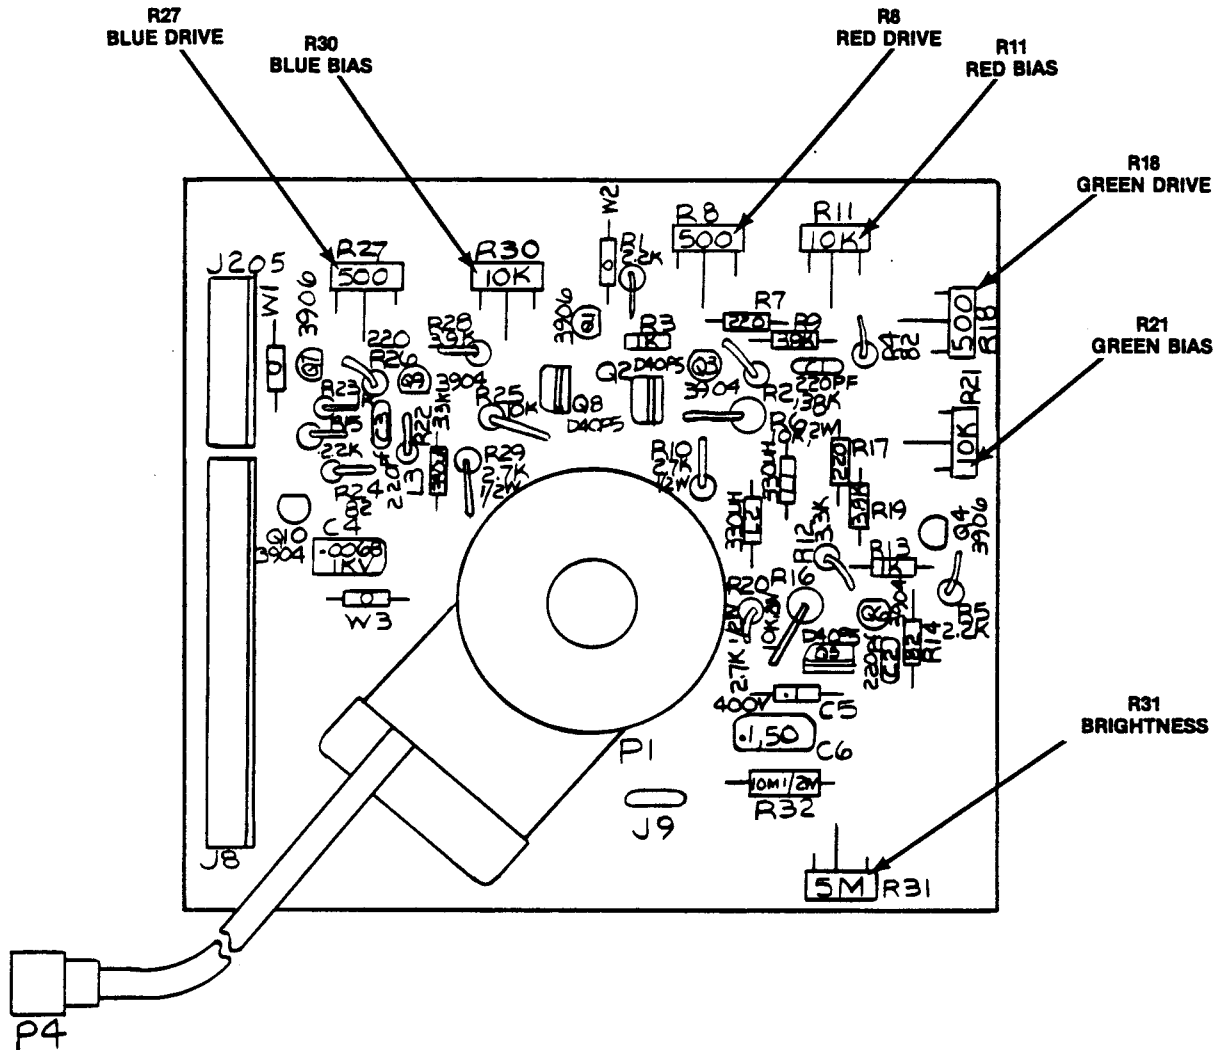

Figure 2 Adjustable Controls on the Neck PCB
The BRIGHTNESS control (R31) is set at the factory and then sealed. Do not adjust the BRIGHTNESS control unless the cathode-ray tube is replaced. Figure 2 shows the location of the BRIGHTNESS control. To adjust, follow the steps below.
2. Turn all Bias and Drive controls to their fully clockwise position. Refer to Figure 2 for the location of these controls.
5. Rotate HV OVER-VOLTAGE R62 to its fully counterclockwise position. Figure 2 shows the location of the HV OVER-VOLTAGE and FREQUENCY controls.